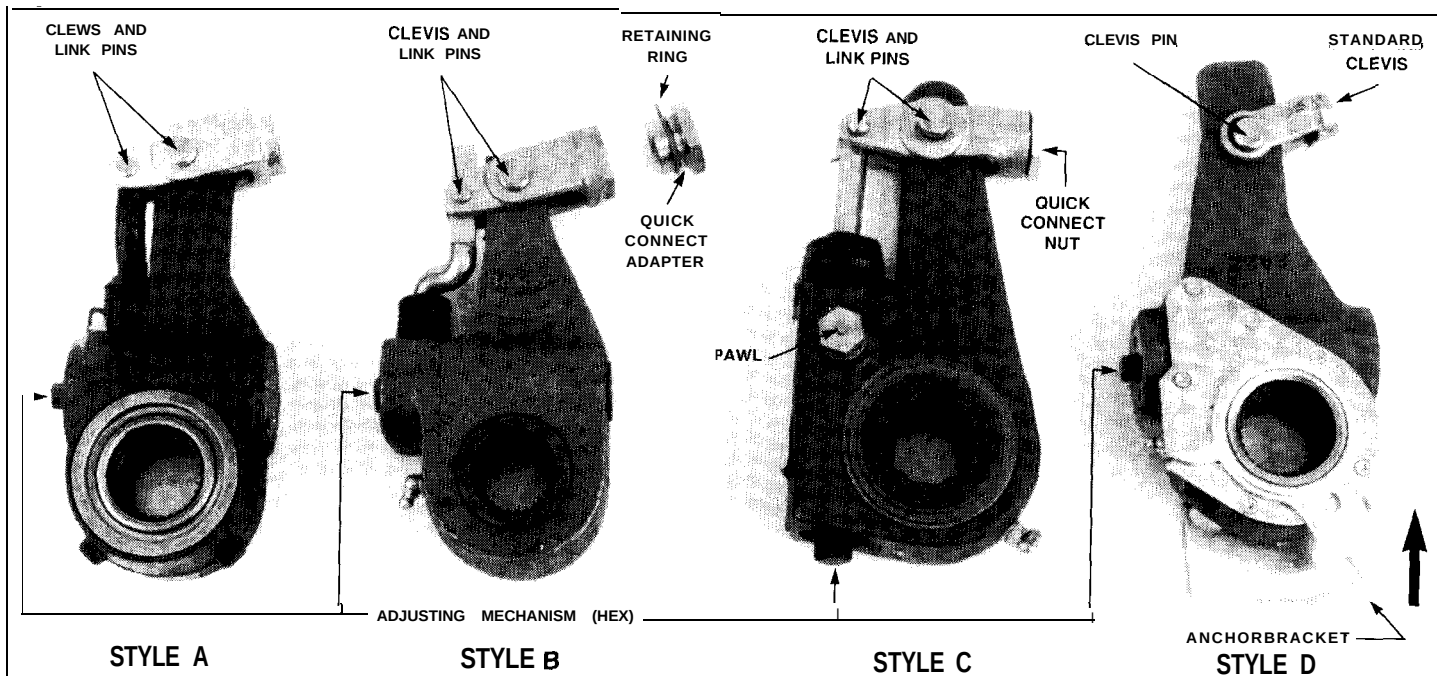

FIGURE 2: AUTOMATIC SLACK ADJUSTER TYPES
1. Remove the clevis and link pins and the anchor bracket nut or pawl, if necessary (see Figure 2).
- 7A. Rotate the adjusting mechanism to either install a clevis and link pin or to connect the clevis with a quick connect nut (see Figure 2, Styles A, B, and C).
- 8A. Using the correct gauge or template, (see Figure 2, Styles A, B, and C) check for the proper mounting angle. Adjust the clevis for the correct angle, if necessary. **NOTE:** The brake chamber push rod may require shortening or replacement to obtain the proper installation length.
- 8B. Make sure the control arm is bottomed out in the direction of the arrow or if the control arm has a pointer, align with the cut-out gap provided (see Figure 2, Style D) and then secure all anchor bracket hardware.
1. Position a wrench or socket over the adjusting mechanism. **NOTE:** If the automatic slack adjuster is equipped with a pawl, remove the pawl for the brake adjustment and then properly reinstall the pawl (see Figure 2, Style C). Tighten the pawl to 15 - 20 ft.-lbs.